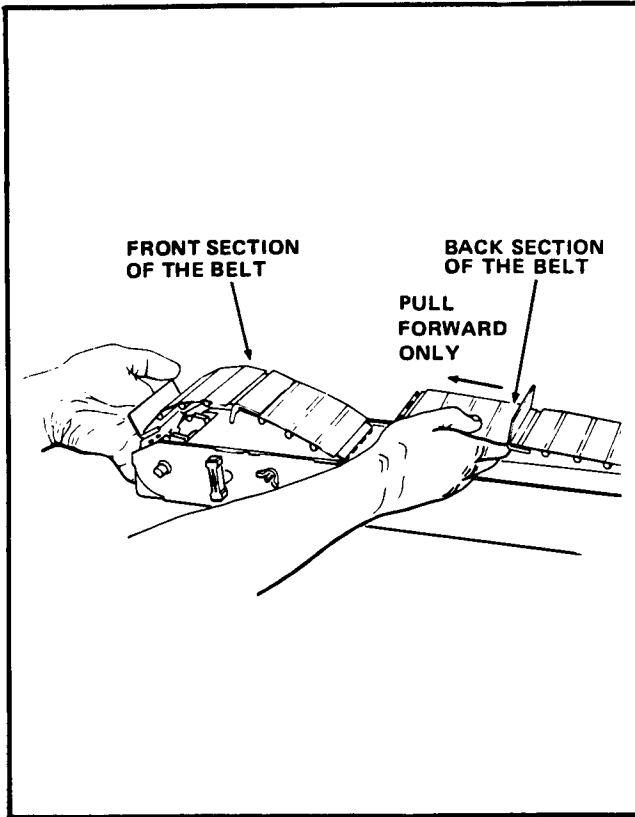

FIGURE 3
7. Place the palm of your hand on the front section of the Belt as shown in Figure 3 to guide the Belt through the Module, and pull forward on the back section of the Belt to remove it from the Module.